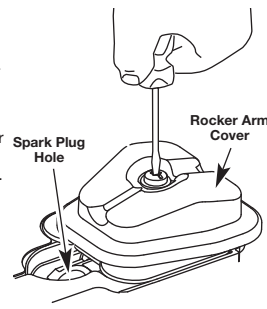

Fig. 29
- Clean dirt from around the rocker arm cover. Remove the screw holding the rocker arm cover with a large flat blade screwdriver or Torx T-25 bit (Fig. 29). Remove the rocker arm cover and gasket.
- The piston is at the top of its travel while looking in the spark plug hole (Fig. 29)
- Reinstall the rocker arm cover using a new gasket (Fig. 29). Torque the screw to: **20–30 in•lb (2.2–3.4 N•m).**